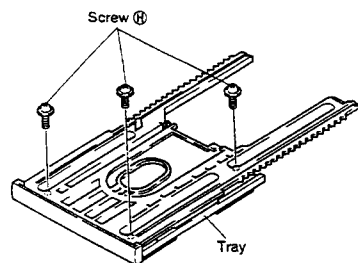

Fig. 2-14
- (3) As shown in Fig. 2-14, turn over the tray, and put three screws on it.